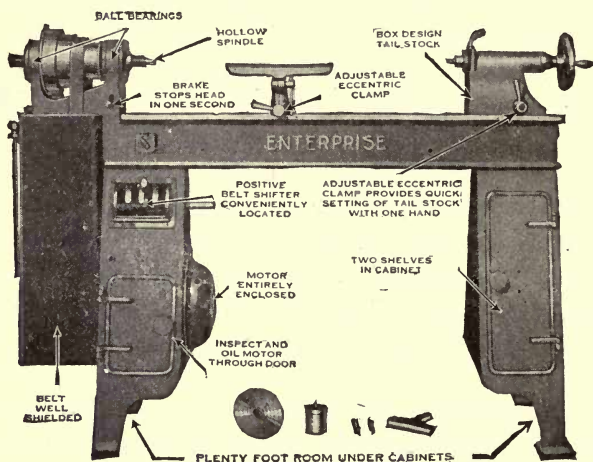

FIG. 205.—Wood-Turning Lathe.
**500. Turning Lathe.**—The turning lathe (Fig. 205) is used for drilling and turning articles of wood into round or oval shapes. The way in which it is made may be understood by reference to the figure. It has a solid frame of iron,